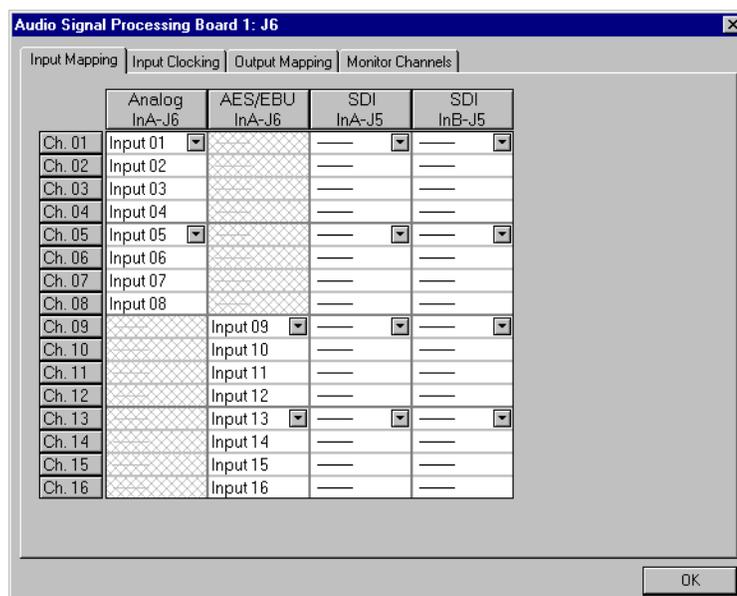
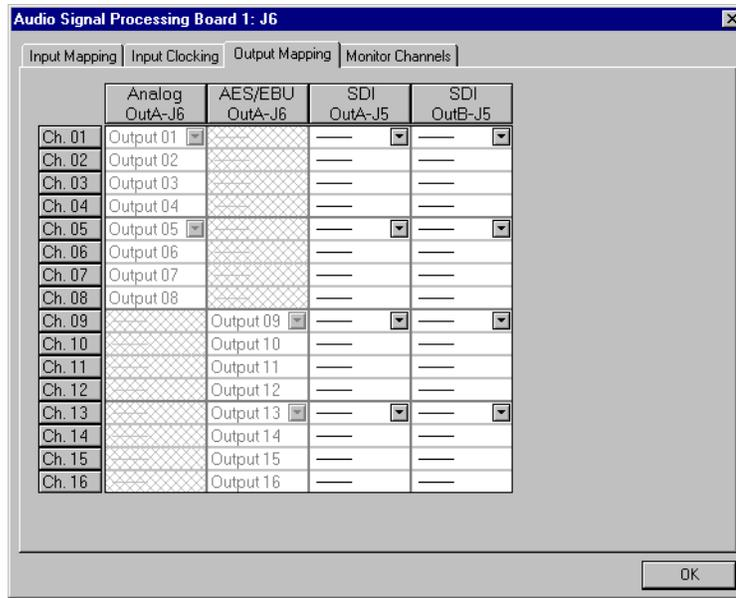

Figure 36. Audio Configuration dialog box, Input Mapping tab
Figure 37. Audio Configuration dialog box, Output Mapping tab
The Audio Configuration dialog box shown in Figure 36 allows you to configure input and output channels, input clocking, audio quality and monitor channels.
The Input Mapping tab is used for mapping input sources to Profile channels, while the Output Mapping tab is used for mapping Profile channels to output destinations. For example, you can map Profile Audio Chassis (PAC) input sources and serial digital audio input sources. Figure 36 and Figure 37 illustrate a sample configuration: a Profile unit with an audio signal processing board, a PAC 208 chassis (with A/D and D/A convertors and connectors for eight channels), and two serial digital cards providing eight analog audio channels, eight digital audio channels, and four video channels with 16 embedded audio channels each.
The columns represent the sources to the sixteen channels on the input side and the destinations from the sixteen channels on the output side. The examples in Figure 36 and Figure 37 illustrate the system with a PAC 208 chassis allowing the selection of analog channels 1–8 and digital channels 9–16. A PAC 216 chassis, however, provides sixteen analog inputs and outputs or sixteen digital inputs and outputs. For the PAC 208, rows 9 through 16 of the analog channel column, and rows 1 through 8 of the AES/EBU channel column, are cross-hatched to indicate that these channels are not selectable. In Figure 37, in the column labeled AES/EBU, rows 9–16 appear dimmed, indicating that this audio type is always mapped and cannot be unmapped. Attempting to remap this section results in an error message.
The number of columns in the mapping grid depends on the number of possible input or output audio types that may be mapped to or from the disk recorder channels. The grid is used for selecting which of the possible input or output audio sources and destinations to map to the channels. Audio channels are mapped in groups of four channels only, and the four audio channels are always mapped to consecutive disk channels. For example, analog channels 1–4 (Input 01–Input 04) in the first column of Figure 36 are mapped to the first four disk recorder channels (Ch. 01–Ch. 04), while digital channels 9–12 (Input 09–Input 12) in Figure 37 are mapped to another four disk recorder channels (Ch. 09– Ch. 12).
1. Choose **Option | Audio Configuration Board 1** or **2** or click an ASPB Configuration button. The Audio Configuration dialog box appears (Figure 36).
1. Choose **Option | Audio Configuration Board 1** or **2** or click an ASPB Configuration button. The Audio Configuration dialog box appears (Figure 37).